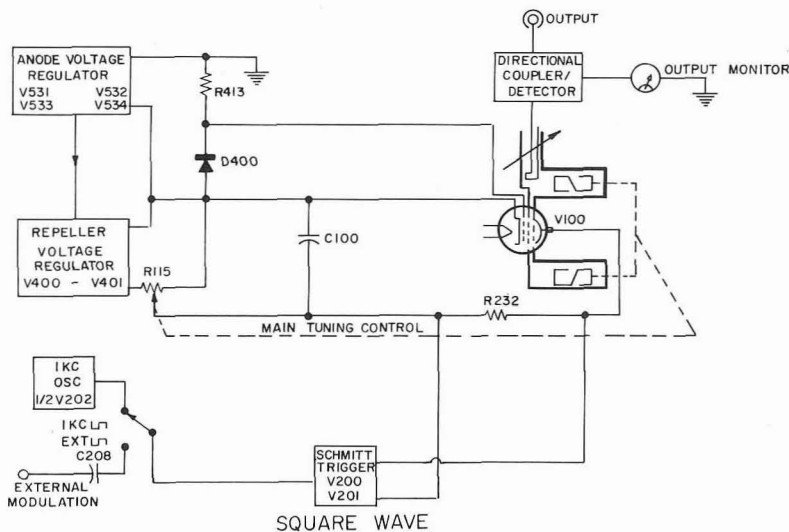
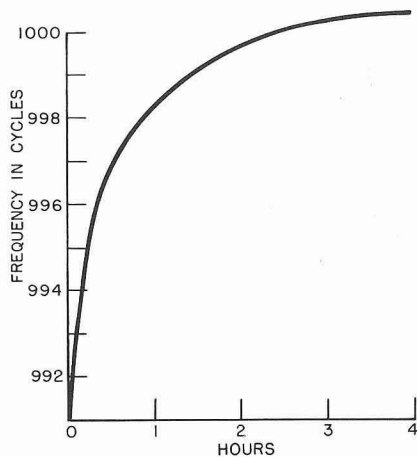

Figure 6. Block diagram for operation of the Microwave Oscillator with internal 1-kc square-wave modulation or external square-wave modulation.
Figure 7. Typical warm-up drift for the 1-kc oscillator.
3.2.7 1-KC SQUARE-WAVE MODULATION. In many types of klystrons, including the Type 5836, an appreciable amount of fm occurs across long pulses when the tube is grid-modulated. Therefore, in the Type 1360-A Microwave Oscillator, the repeller is used for square-wave modulation. By modulating in and out of a repeller mode, fm will naturally occur on the leading and trailing edges of the pulse, but its duration is now a function of the switching speed. The 1-kc output from the RC oscillator is fed into the Schmitt trigger circuit where square-wave output is applied across R232 in series with the repeller lead (see Figure 6). The frequency of the 1-kc square wave can be changed with the 1 KC ADJUST screwdriver control to match the frequency of the detector. Figure 7 shows the typical warm-up drift for the 1-kc oscillator. The frequency change with power-line voltage fluctuations is approximately 0.06% per volt at 115 volts.
3.2.8 EXTERNAL SQUARE-WAVE MODULATION. For external square-wave modulation, operation is similar to 1-kc square-wave modulation (see Figure 6) except that the modulating voltage is fed from an external source through the EXTERNAL MODULA-